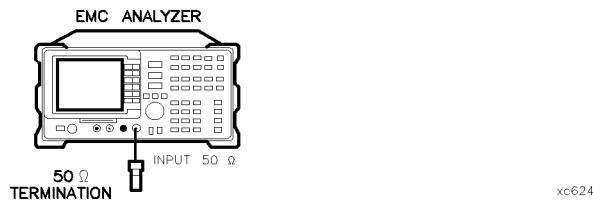

Figure 2-66. Residual Response Test Setup, HP 8591EM
1. Connect the termination to the EMC analyzer input as shown in Figure 2-66.
10. Reconnect the termination to the EMC analyzer input as shown in Figure 2-66.